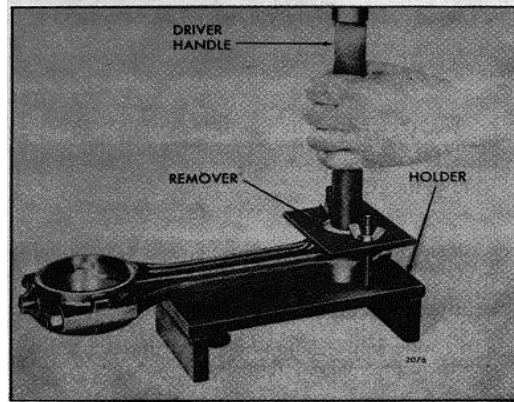

Fig. 4 - Removing or Installing Bushings
1. Clamp the upper end of the connecting rod in holder J 7632 (Fig. 4) so that the bore in the bushings is aligned with the hole in the base of the holder..
1. Clamp the upper end of the connecting rod assembly in holder J 7632 so that the bore for the bushings aligns with the hole in the base of the tool.(Fig. 4)..